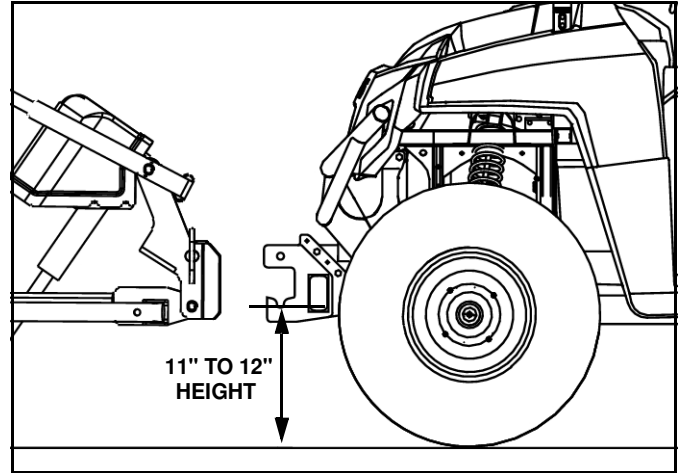

Figure 9
14. Position the UTV Mount (#1) so that the center of the lower pin slot is 11 to 12 inches off the ground. (See Figure 9.)